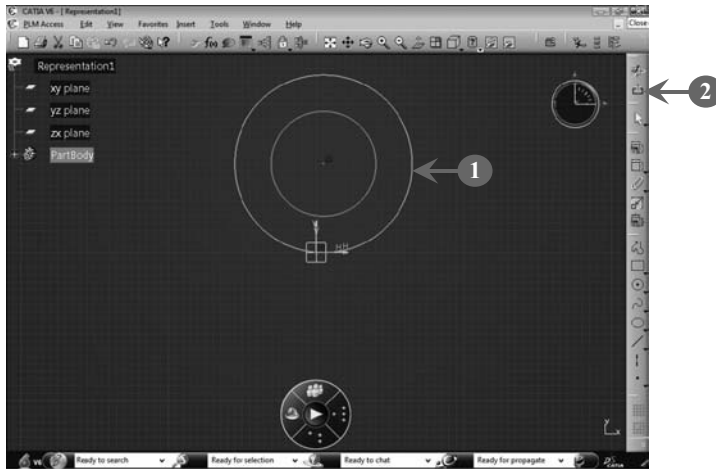

FIGURE 3.54
1. *Create* a sketch consisting of two concentric circles in the Sketcher workbench (**Figure 3.54**).
2. *Select* the **Exit workbench** button (☒) from the Sketcher workbench, as shown in Figure 3.54: